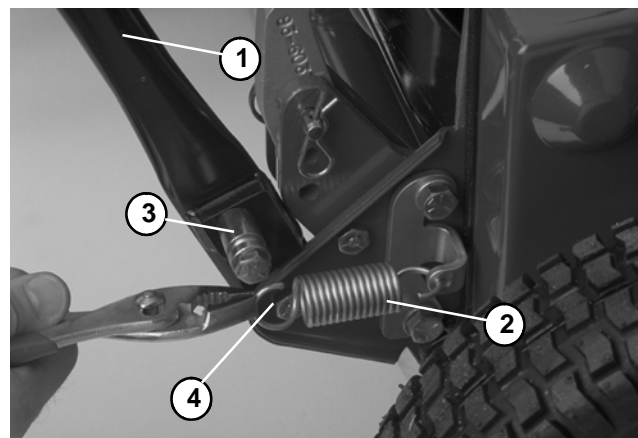

Figure 17
3. Use a pliers to remove the extension spring from the spring retainer (Fig. 17).
4. Pivot kickstand up against the handle and hold there. Use a pliers to reinstall the extension spring to the spring retainer (Fig. 17).